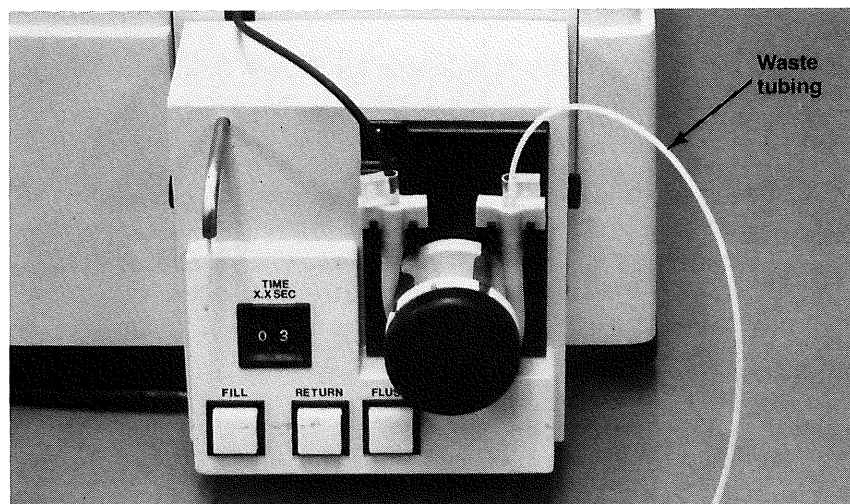

Figure 22.
25. Attach the waste tubing to the right-hand side of the pump. See Figure 22.